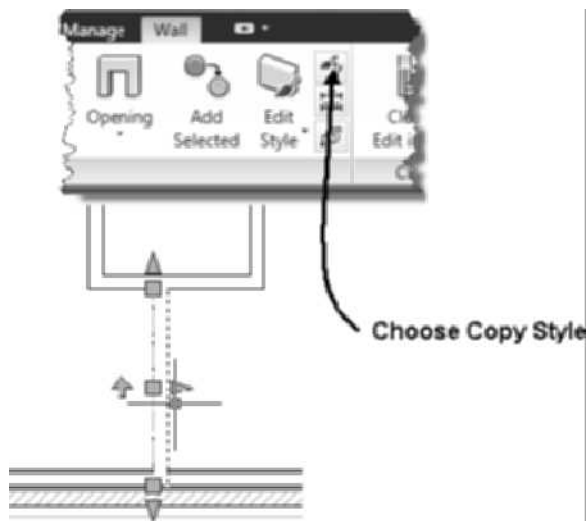

FIGURE 3.83 Merger of interior partitions
(Notice that the interior walls do not merge as shown in Figure 3.83.)
8. Select the interior wall as shown in Figure 3.83 and choose **Copy Style** from the Wall tab, General panel of the ribbon to open the **Wall Style Properties-Standard (2)** dialog box.
9. Select the **General** tab, overwrite the name **Interior** in the **Name** field to remove the "Standard (2)" name, and type **Interior partitions** in the **Description** field.